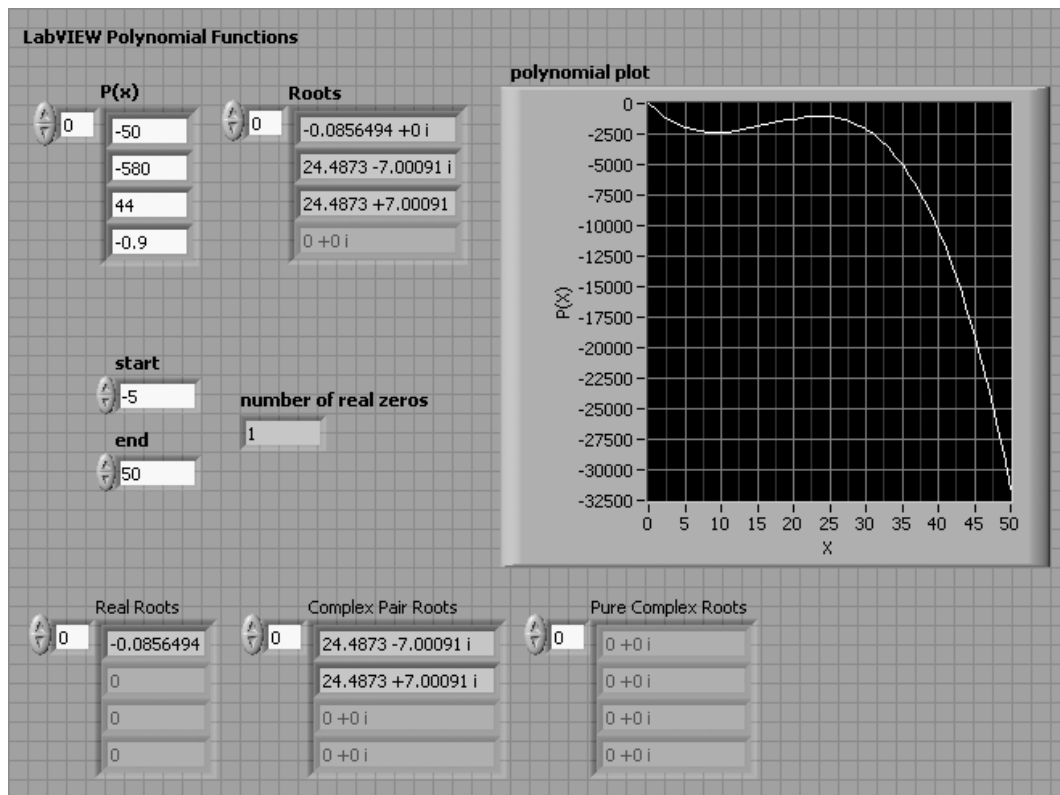

Figure 10.1
The VI shown in Figure 10.1 uses several of these functions.
- The **Polynomial Real Zeros Counter** function was used to determine the number of roots in the specified range ($-5, 50$ in Figure 10.1).